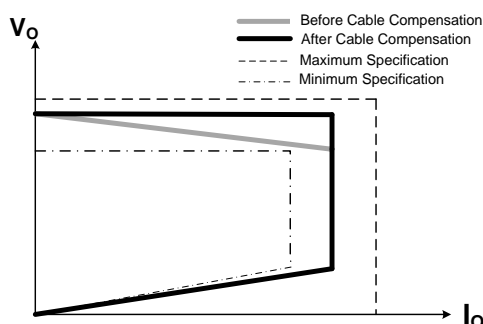

Figure 23. CV with CDC and CC V/I Curve at the Cable End
FAN105A modulates pulse width and switching frequency based on feedback signal auxiliary winding signal (VS) and current sense signal (CS). Extremely accurately Constant Voltage(CV) with Cable Drop Compensation (CDC) and Constant Current (CC) could meet strict requirement from market. The CV and CC output characteristic is shown as Figure 23. There are 4 levels (80mV - 320mV) choices in CDC compensation weighting that is easily set via external SMD resistor.